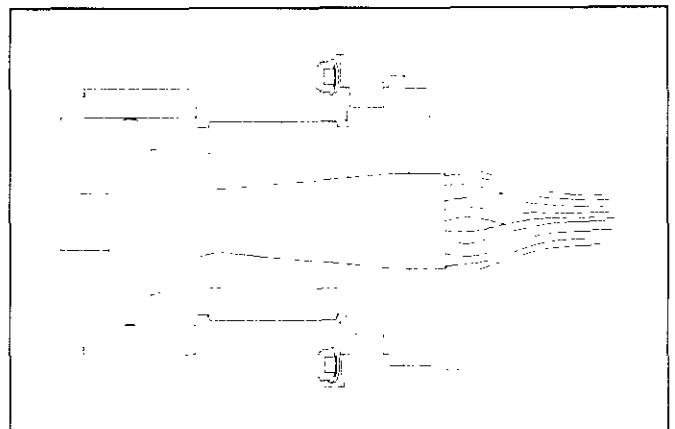

Figure 5. Main Burners.
- Main burners and pilot burner should be properly adjusted as shown in Figures 5 and 6, respectively. Main burner flame should be clear blue and centered within the heat exchanger openings.